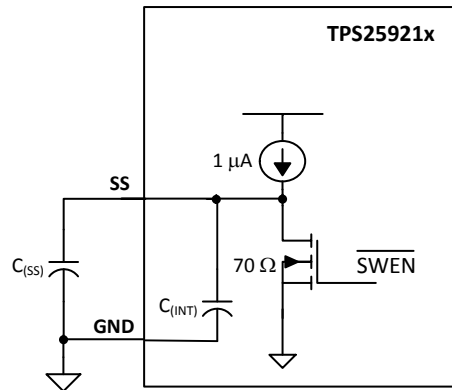

Figure 27. Output Ramp Up Time t_{dVdT} is Set by $C_{(dVdT)}$
TPS25921 is designed to control the in-rush current upon insertion of a card into a live backplane or other "hot" power source. This limits the voltage sag on the backplane's supply voltage and prevents unintended resets of the system power. A slew rate controlled startup (SS) also helps to eliminate conductive and radiated interference. An external capacitor from the SS pin to GND defines the slew rate of the output voltage at power-on (as shown in Figure 27). The equation governing slew rate at start-up is shown in Equation 1 :